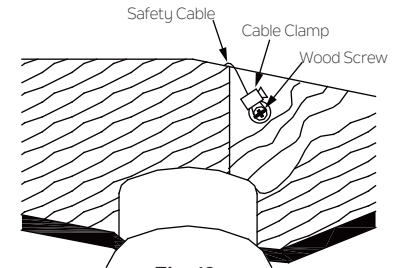

Fig. 12
Step 2 . Insert the safety cable through the mounting bracket and one of the holes in the outlet box into the ceiling. Adjust the length of the safety cable to reach the wood screw and flat washer by pulling the extra cable through the cable clamp until the overall length is correct, put the end of the cable back through the cable clamp, forming a loop at the end of the cable. Tighten the cable clamp securely. Now, put the loop in the end of the safety cable over the wood screw and under the flat washer. Tighten the wood screw securely. (Fig.12)